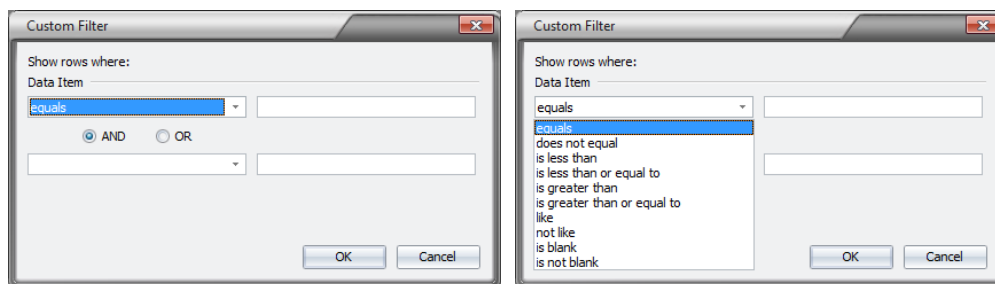

Figure 2.7—Custom Filter dialog
2. Click the gray down arrow to the right of the column heading and select **(Custom...)** from the dropdown list. The *Custom Filter* dialog opens (Figure 2.7).
- In the first selection field, click the dropdown arrow and select your criteria. In Figure 2.7, the criteria for the selection field on the right is “equals.” In the selection field to the right, enter a type, a value, or text. Note the special characters listed at the bottom of the dialog that can be used as “wild cards” to represent any characters or numbers.